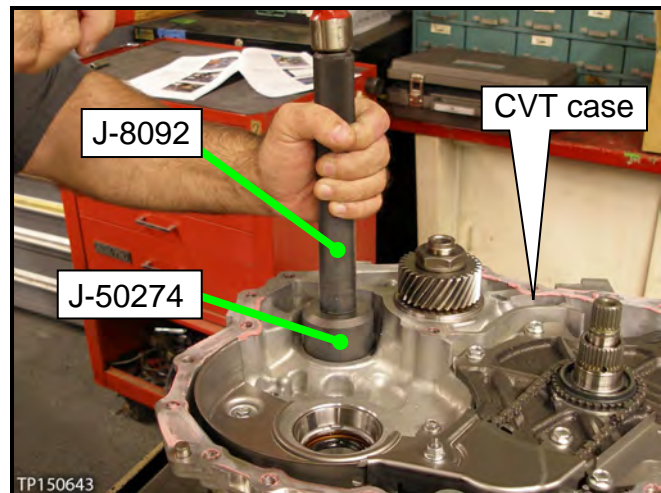

Figure 60
2. Install the new outer races using Race Installer J-50274 from Tool Kit J-50255, and Driver handle J-8092 (see Figure 60 and 61).
**NOTE:** The tools shown in Figure 60 and 61 are similar but may not look exactly the same as J-50274 and J-8092.